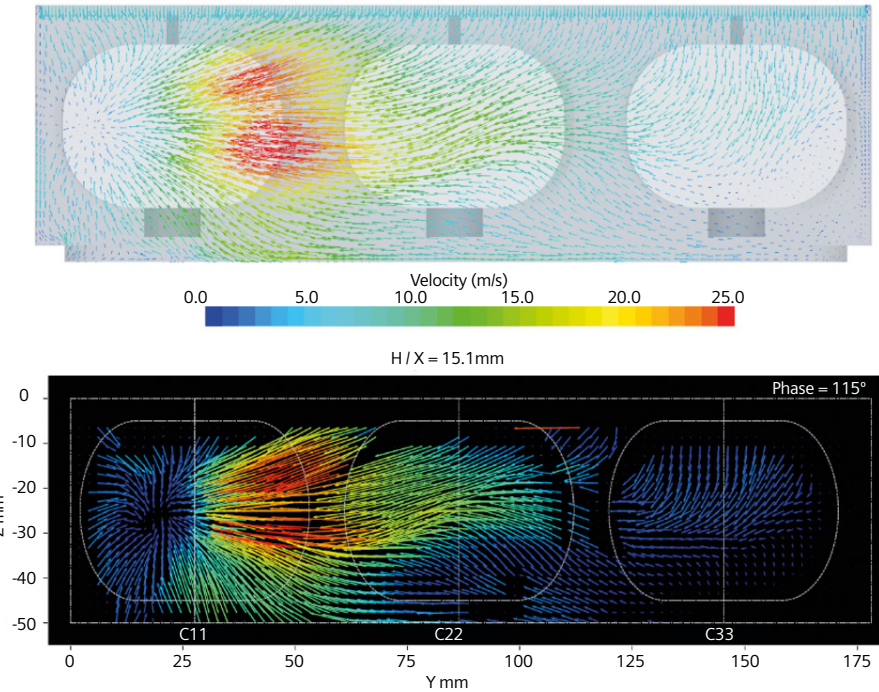

Figure 11: CFD vs. PIV: tangential components of the velocity in a horizontal plane at 3000RPM
- From PIV analysis, a good correlation is achieved on the flow. The same flow structures are visible during tests and in CFD calculations (figures 11 and 12).